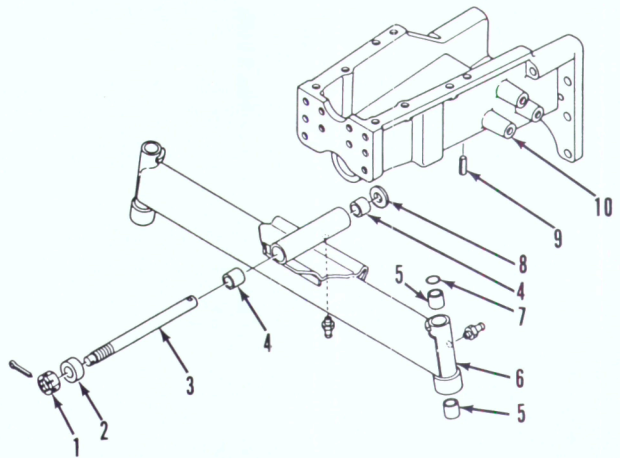

Fig. 2—Exploded view of adjustable tread front axle used on Model L275. Except for axle extension (11), refer to Fig. 1 legend.
1. Fig. 1 shows an exploded view of typical tread front axle assembly used on Models L185 and L235. Model L275 uses an adjustable tread front axle as shown in Fig. 2. All other models are equipped with an adjustable tread front axle as shown in Fig. 3.